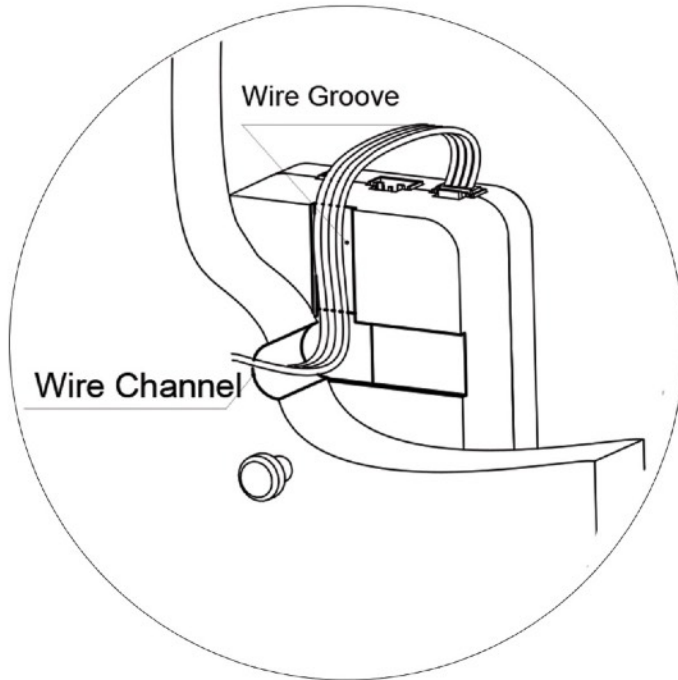

Fig. 10
7. Make sure the Deadbolt Lock Body is fully operational before closing the safe door for the first time.(Fig. 10)